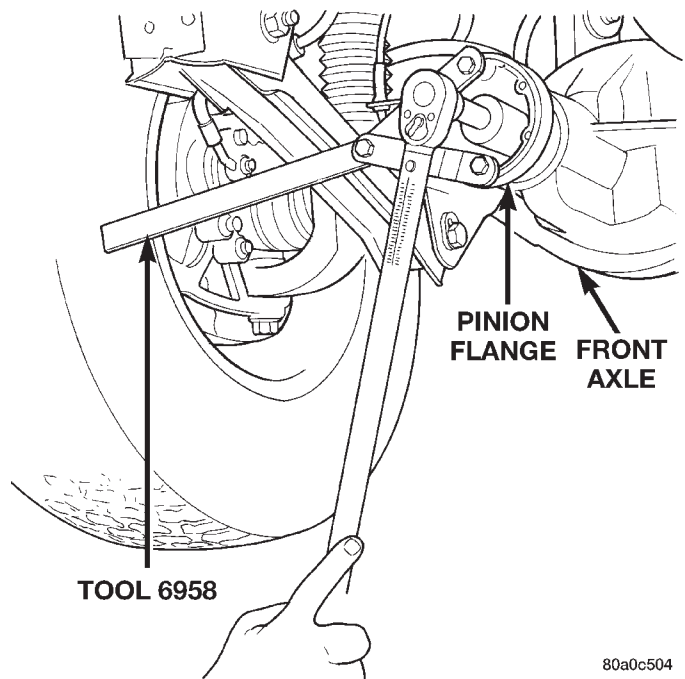

Fig. 18 Tightening Pinion Nut
(8) Using Flange Holder 6958, a short length of 1 in. pipe, and a torque wrench set at 353 N·m (260 ft. lbs.), crush collapsible spacer until bearing end play is taken up (Fig. 18).